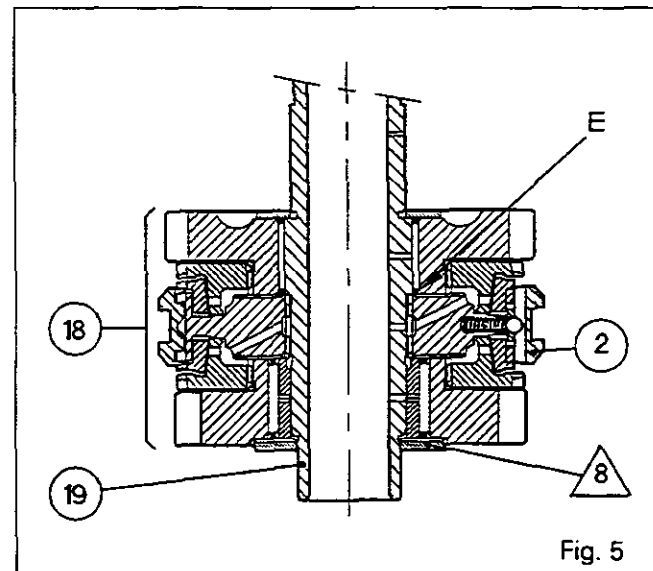
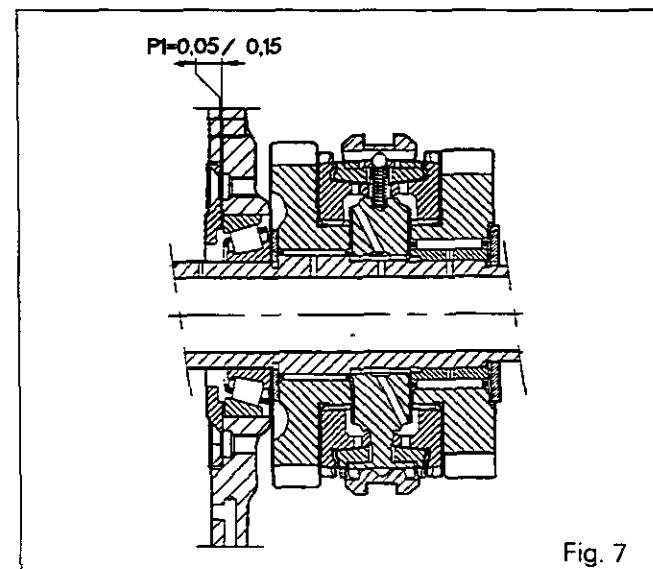

Fig. 5
Fig. 7
28. Centre the friction washer /8\. Passing via the bore in the front of the unit, fit the secondary shaft (19) in the gear/synchromesh assembly (18), with shoulder «E» pressed against the synchromesh (2) (Fig. 5).
29. Position the cup (37) and the locking plate (25) without shims [1].
30. Fit the bolts (36) and tighten them to a torque of 36 to 46 Nm.
32. Carry out shimming (Fig. 7) to obtain preloading of: